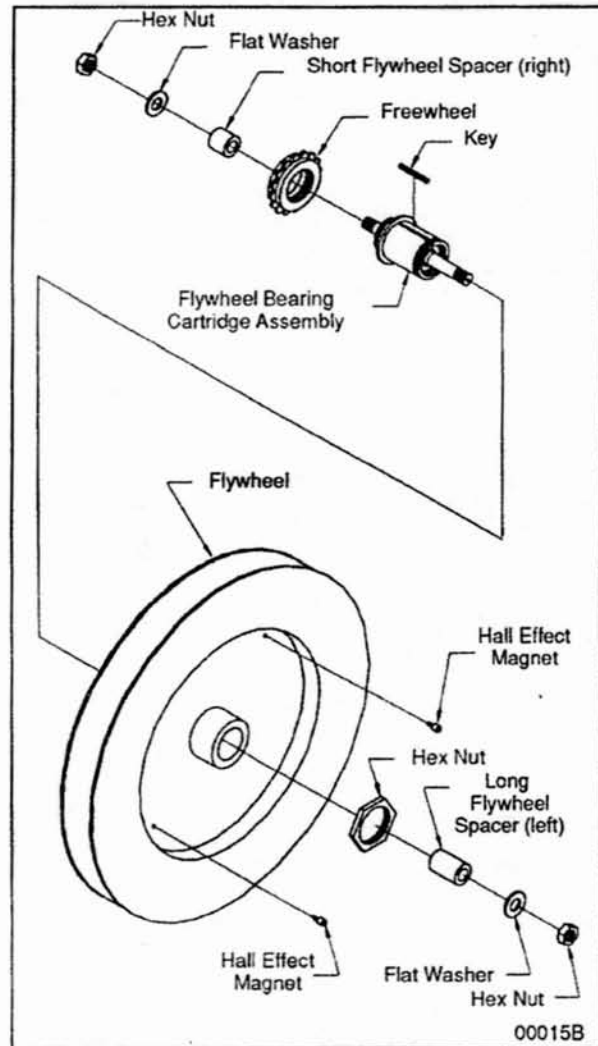

Figure 5.20 Flywheel Bearing & Spacer Replacement.
3. Using a large adjustable wrench, remove hex nut from flywheel. See Figure 5.20.